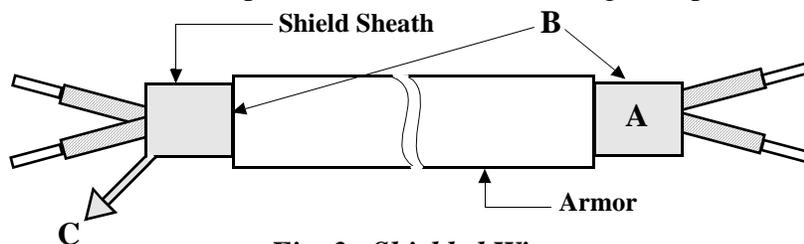

Fig. 3 Shielded Wire
8. Replace the inverter cover. Refer to Figs. 3 and 4 for correct wiring of the InterBus-S Control Card and the Control Board. Note: The cable colors indicated meet the InterBus-S standard.
2. Use twisted shielded wire. Prepare the wire as shown in Fig. 3 to prevent noise interference.
1. To prevent noise, use shielded wire as specified in Fig. 3. Separate from the power circuits (100VAC or greater).
2. Terminate shielded wire correctly. (Refer to Fig. 3.)